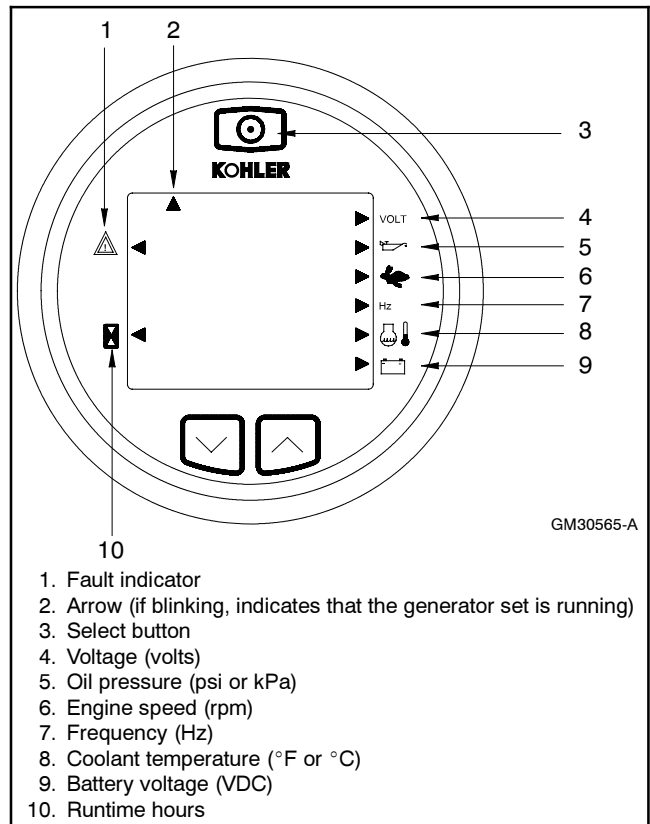

Figure 7 Remote Digital Gauge
- (1) With no power to the gauge, press and hold the SELECT button. See Figure 7.
- (2) Apply power to the gauge.
- (3) The gauge displays: **Adc 2100**
- (4) The gauge displays: **Unit SEt**
- (5) Press and hold *both* the UP and DOWN buttons until the gauge beeps and the display changes.
- (6) Use the UP or DOWN buttons to select either **Int** or **USA** units.
- (7) Press and hold *both* the UP and DOWN buttons until the gauge beeps and the display changes.
- (8) Press the DOWN button.
- (9) The gauge displays: **ESC 08 ?**
- (10) Press and hold *both* the UP and DOWN buttons until the gauge switches to the monitor mode.
Press the SELECT button until the display shows generator set data and indicator arrows. Use the UP or DOWN arrow to scroll through the data. The corresponding illuminated arrow indicates which data is being displayed. See Figure 7. The following generator set operation data is displayed in this mode:
Generator set and engine fault codes are displayed in blinking text. The fault indicator also lights when a fault code is displayed. See Figure 7. See the generator set operation manual and the engine documentation for fault codes and information.
Note: The ADC 2100 must be powered (display active) and the master switch must be in the AUTO position for remote start/stop. If the ADC 2100 master switch is in the RUN position, a remote stop command will not stop the generator set. The arrow at the top left side of the display blinks to indicate that the generator set is running (see Figure 7, item 2).